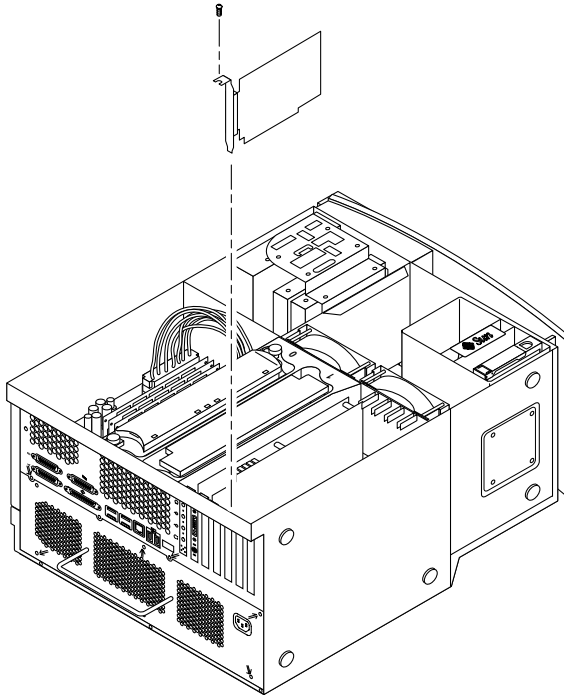

FIGURE 12 Installing Additional Graphics or PCI Cards
2. Use a No. 2 Phillips screwdriver to remove an empty card slot’s metal filler panel from the chassis back panel (see FIGURE 12).